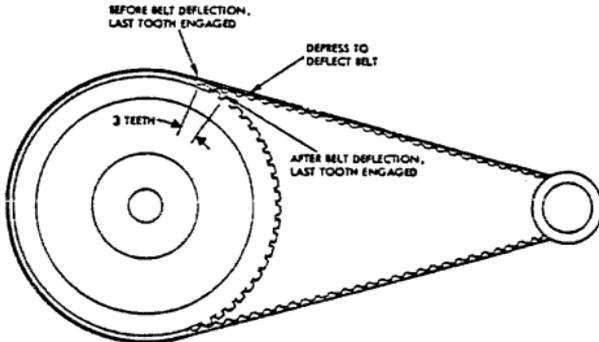

FIGURE 20
- Adjust the pulley so that the timing is snug. Note the last belt tooth that is completely seated in a slot on the large pulley. See Figure 20.